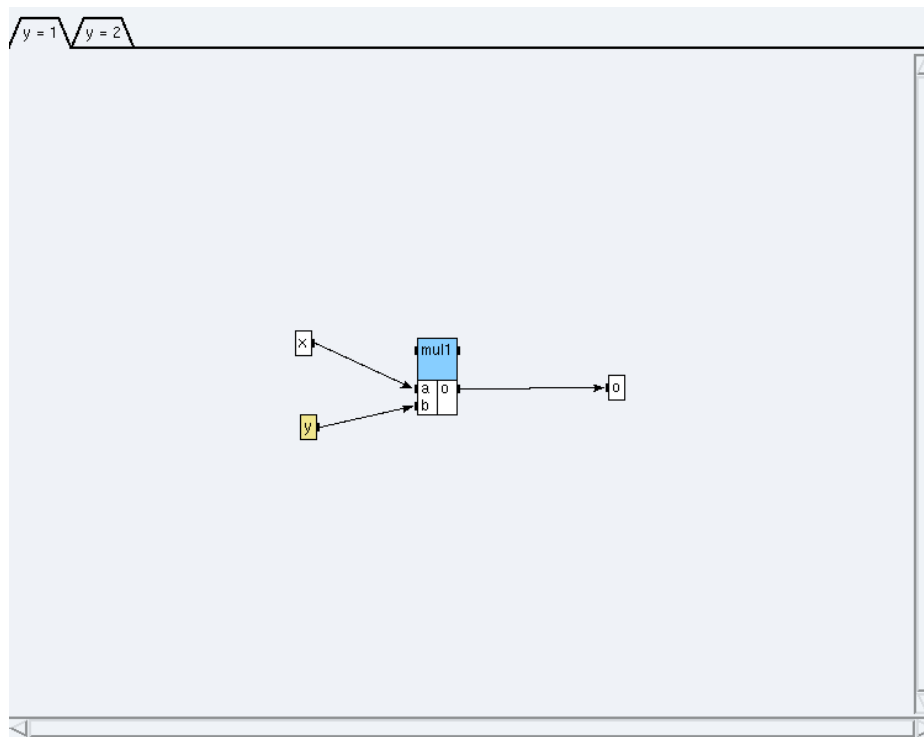

Figure 5.7: Condition `y=1`
- click on the condition `y=1` (cf. figure 5.7) and create the function `mul1<1>` of the definition **Arit\_mul** from `int` library,